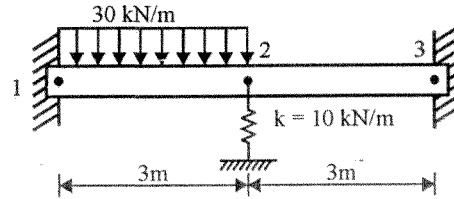

Fig. 3
13. Obtain the deflection at node 2 for the beam shown in fig. 3. $EI = 9000 \text{ kN m}^2$.